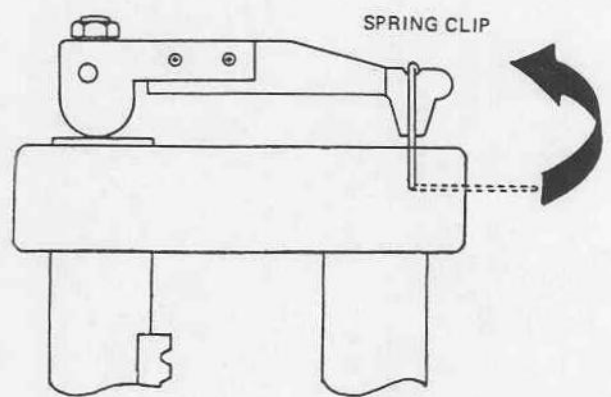
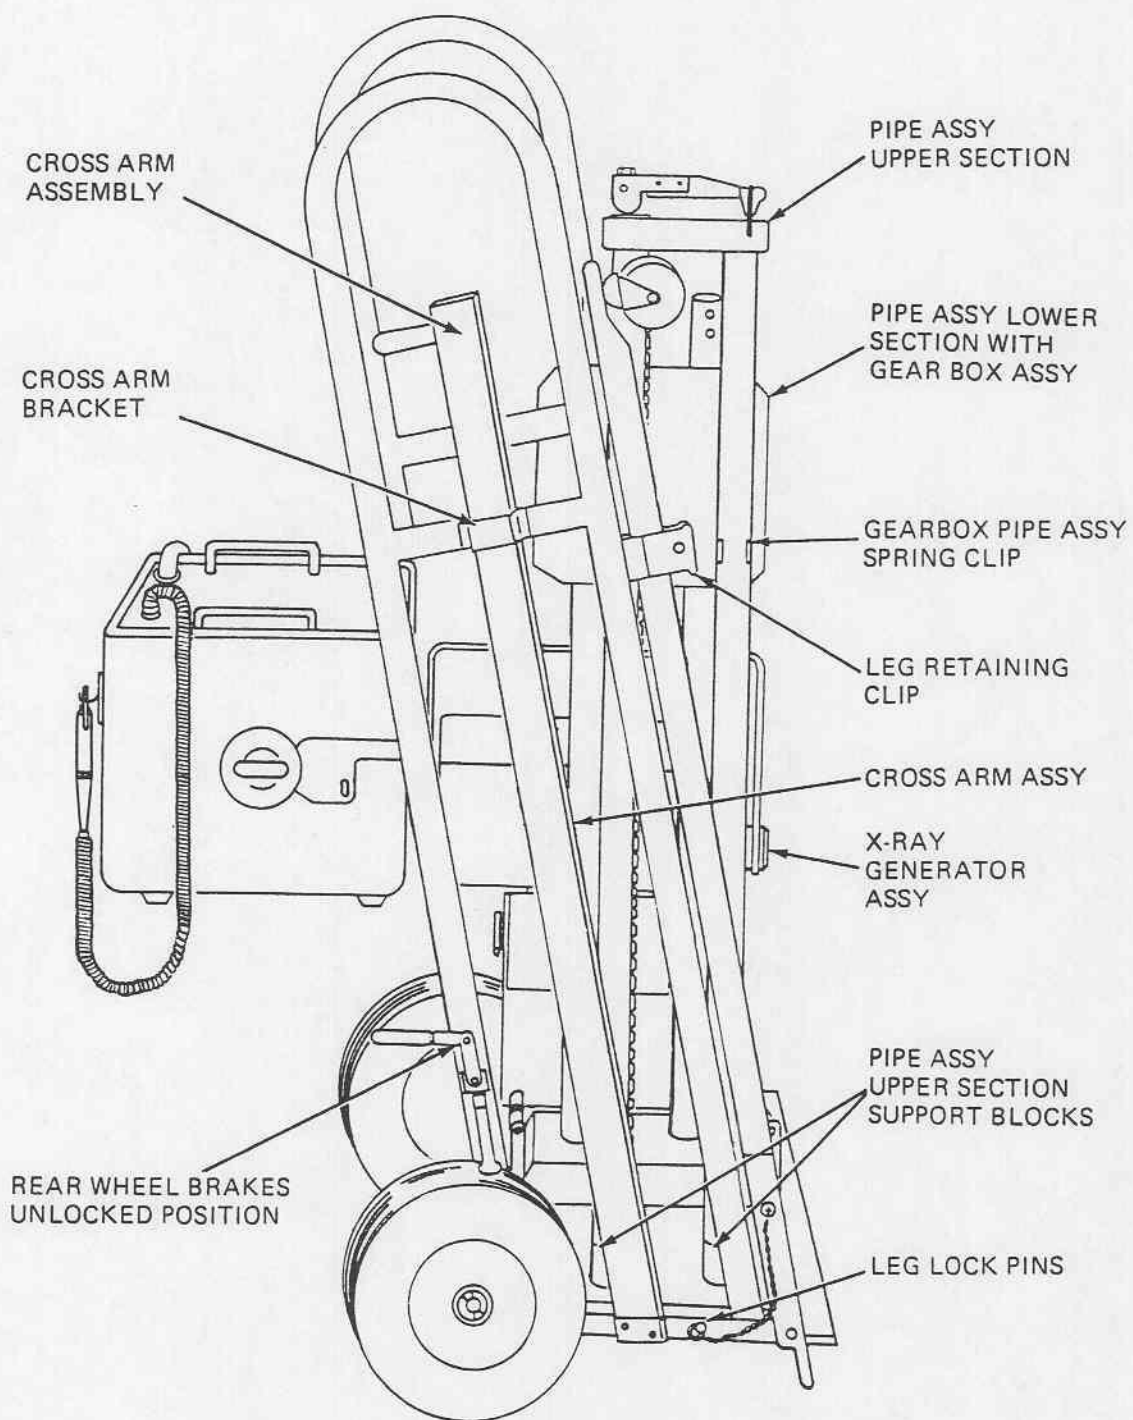

Figure 2-2. Pipe Assembly, Upper Section
Figure 2-6. X-Ray System Transport Position
8. Position pipe assembly, upper section, locking handle to the up (unlocked) position (Figure 2-2).
10. Pull locking handle down (from the unlocked position) to the perpendicular position and rotate 90° to the lock position, secure locking handle with spring clip (Figure 2-2).
3. Verify that pipe assembly upper section locking handle is in the locked position and the spring clip is engaged. (Figure 2-2).
5. Slide the cross arm assembly into cross arm bracket on the side of stand (Figure 2-6).
6. Position pipe assembly upper section locking handle to the up (unlocked) position. Lift off pipe assembly upper section and position on stand pipe assembly upper section support blocks, and fit pipe assembly into gear box pipe assembly spring clip (Figure 2-2 and Figure 2-6).
7. Remove leg locking pins, fold legs up into leg retaining clips (Figure 2-1 and Figure 2-6).